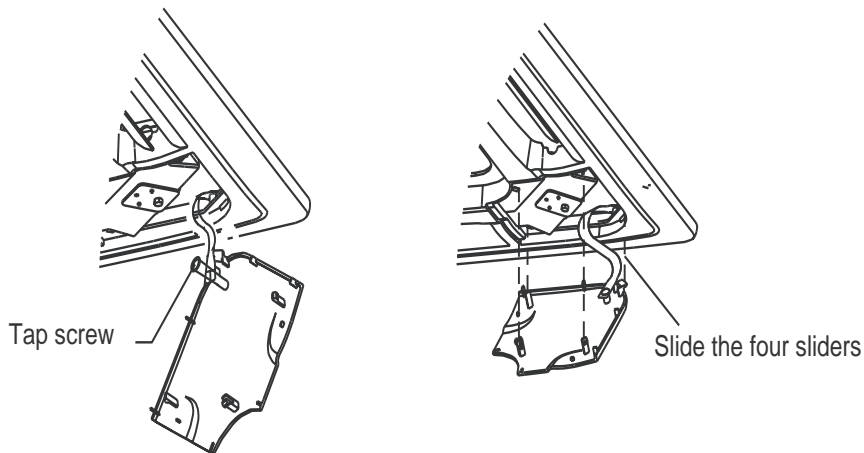

Fig.28
1. Fasten the rope of corner cover onto the screw of the corner cover. (Fig.28)
2. Press the cover into the panel slightly. (Fig.28)